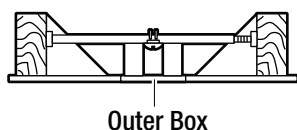

Figure 3
- To hang your fan where there is an existing  but no ceiling joist, you may need an installation hanger bar as shown in Figure 3 (available at your Retailer).